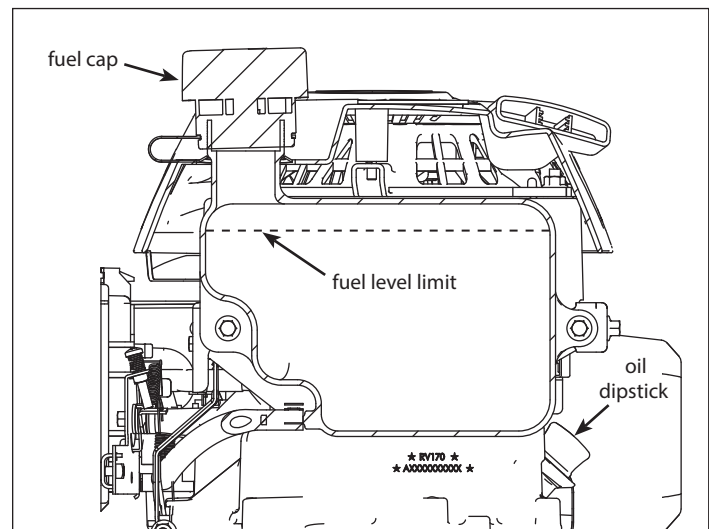

FIGURE 2
3. Fill tank to fuel level limit. **SEE FIGURE 2**